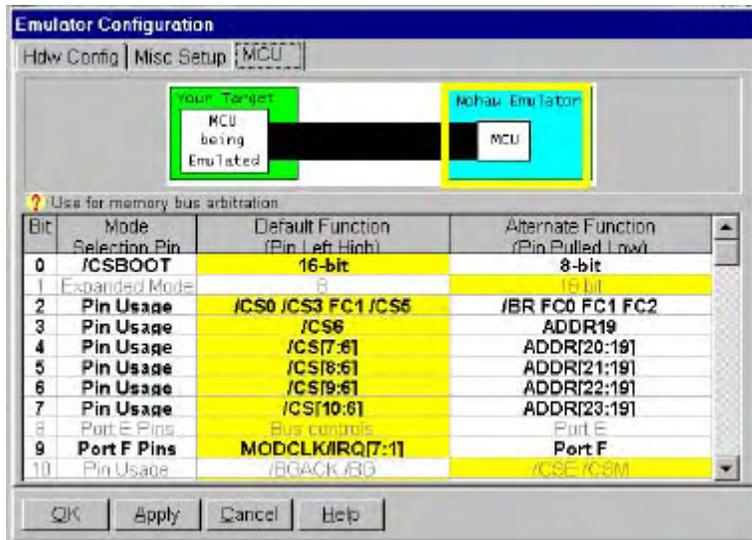
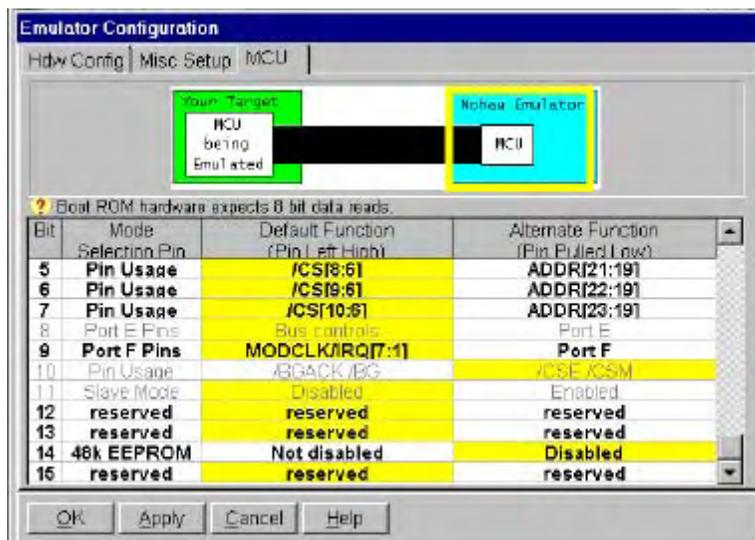

Figure 86. Emulator MCU Values
Figure 87. Emulator MCU Values
10. Move your cursor over the graphic at the top labeled **Nohau Emulator – MCU** and click it. The colored box moves back to the right and the initial dialog box reappears (Figure 86 and Figure 87). Some of the text in this box is bold and some faded. The faded text is not selectable. The column labeled **Default Function (Pin Left High)** is initially colored green. Move your cursor over the last column **Alternate Function (Pin Pulled Low)** and select the following boxes if not already selected (boxes already selected will be green in color).